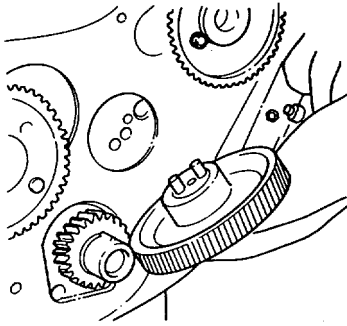

Figure 5-28. Idler Gear and Hub.
- (3) Remove setscrews (1), idler gear (15, Appendix F, Figure 58), and hub (4, Appendix F, Figure 56) (see Figure 5-28).
- (4) Clean and thoroughly inspect the idler gear and hub for signs of excessive wear, cracks, pitting, or other damage. Ensure that oil passages in hub and idler gear are clear.